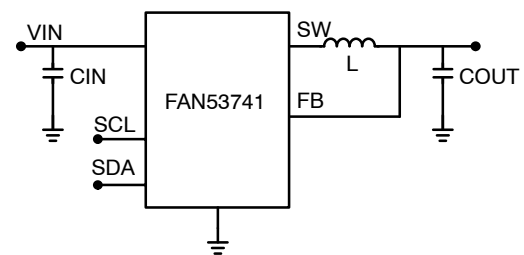

Figure 1. Typical Application
**SYSTEM CHARACTERISTICS** (The following System Characteristics are guaranteed by design and are not performed in production testing. Recommended operating conditions, unless otherwise noted,  $V_{IN} = 2.3\text{ V}$  to  $5.5\text{ V}$ ,  $T_A = -40^\circ\text{C}$  to  $85^\circ\text{C}$ ,  $V_{OUT} = 3.3\text{ V}$ . Typical values are given  $V_{IN} = 3.6\text{ V}$ ,  $V_{OUT} = 3.3\text{ V}$  and  $T_A = 25^\circ\text{C}$ . System Characteristics are based on circuit per Figure 1.  $L = 0.47\text{ }\mu\text{H}$  (0603 DFE160808S-R47M - MURATA,  $3.4\text{ A} / 53\text{ m}\Omega$ )  $C_{IN} = 2.2\text{ }\mu\text{F}$  (0402 - C1005X5R0J225M050BC - TDK)  $C_{OUT} = 10\text{ }\mu\text{F}$  (0402 C1005X5R0J106M050BC - TDK).)
(Unless otherwise specified,  $V_{IN} = 3.8\text{ V}$ ,  $V_{OUT} = 3.3\text{ V}$ , Auto Mode,  $T_A = 25^\circ\text{C}$ ; circuit and components according to Figure 1 and Table 1.)